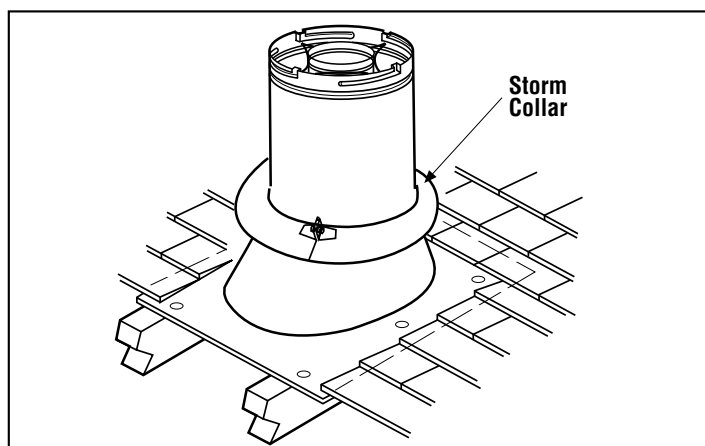

Figure 20 - Installing the Storm Collar
2. **Install the storm collar**—Install the storm collar, supplied with the flashing, over the vent/flashing joint (**Figure 20**). Loosen the storm collar screw. Slide collar down until it meets the top of the flashing. Tighten the adjusting screw. Apply non-combustible caulking or mastic around the circumference of the joint to provide a water tight seal.